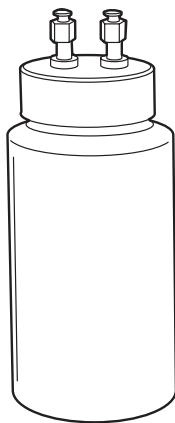

Figure 2-6 Drying Gas Exhaust Bottle
4. Locate the drying gas exhaust bottle (Figure 2-6) in an accessible area.